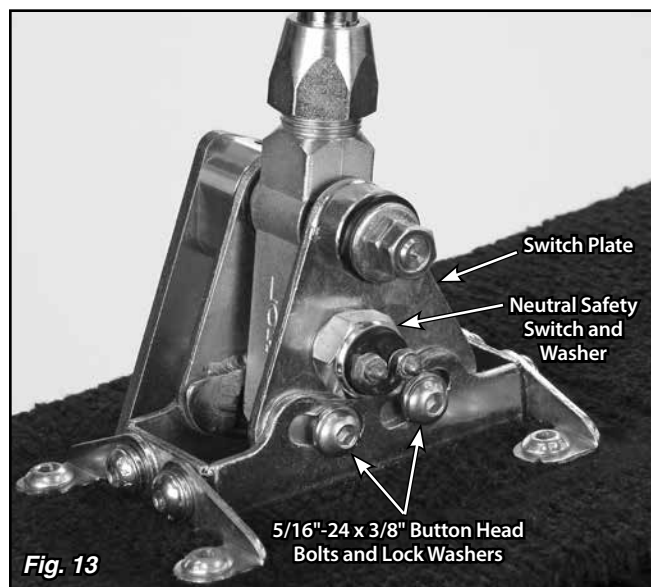
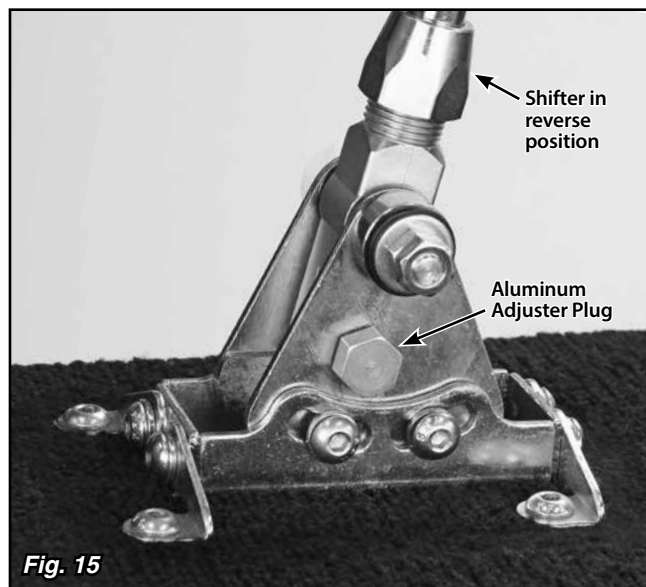

Fig. 13
Fig. 15
Step 16: Remove the neutral safety switch and washer (**Fig. 13**) from the passenger side of the shifter using a 7/8" wrench or socket.
Step 17: Using a 3/16" Allen wrench, loosen, but do not remove, the two 5/16"-24 x 3/8" button head bolts and lock washers that attach the passenger side of the floor mount mounting bracket to the switch plate (the bolts are in curved, slotted holes). **Fig. 13**
Step 18: Put the shifter into the Reverse position. Reposition the switch plate so the hole in the switch plate lines up with the center groove in the shifter body. **Fig. 13** Screw the provided aluminum adjuster plug into the neutral safety switch opening. Wiggling the switch plate slightly forward and back while you are screwing the aluminum adjuster plug in will help get the shifter body centered on the adjuster plug. **Fig. 15**
- **If there are (2) connections for a neutral safety switch,** run a #12 (or heavier) stranded wire from these terminals in your fuse panel to the (2) terminals on the neutral safety switch. That completes the Neutral Safety Switch wiring.
Step 2: Loosen the jam nut below the shifter knob (turn the nut CLOCKWISE to loosen it). **DO NOT** loosen or remove the set screw in the knob. **Fig. 15**